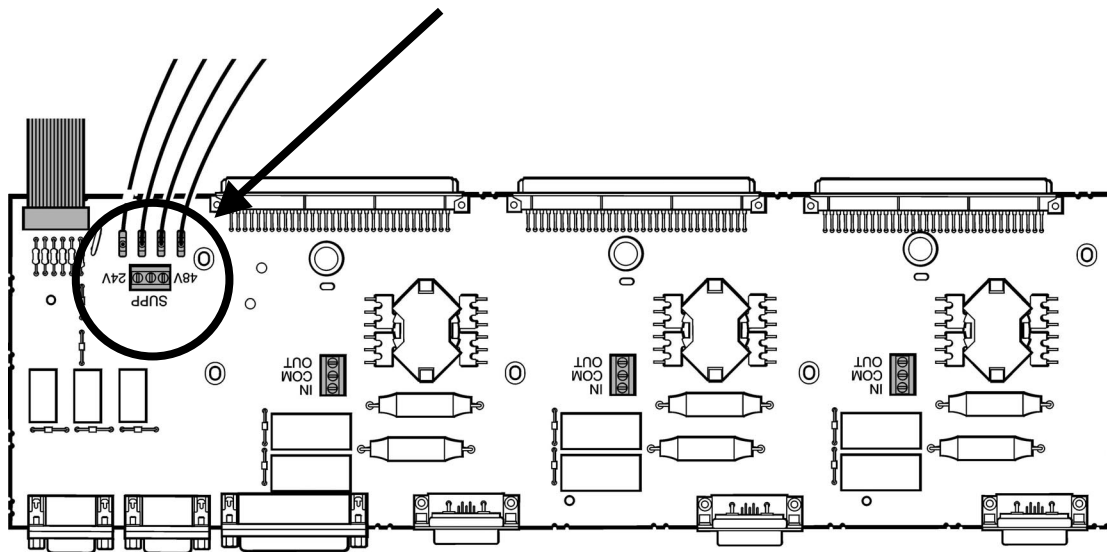

Figure 10 – Motor voltage configuration
3. Locate the motor voltage configuration as shown in figure 10.